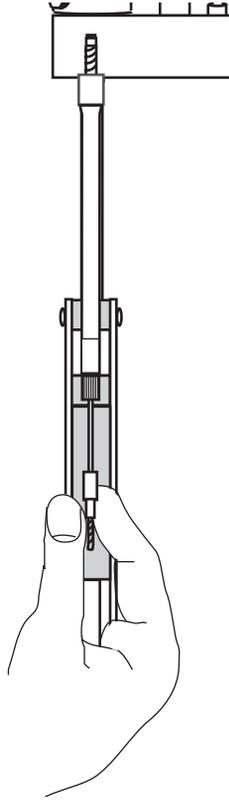

Figure 5-2 Syringe Assembly Components
3. Remove the knurled nut that holds the plunger to the syringe guide mounting bracket (Figure 5-2).